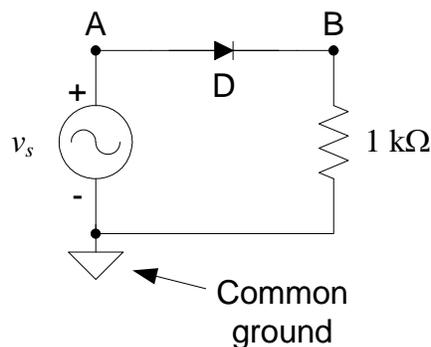

Figure 2 Simple diode rectification circuit.
4. Sketch the expected resistor voltage from the circuit shown in Fig. 2 below assuming a constant voltage drop model for D and an input sinusoid of 10-V peak amplitude and a frequency of 100 Hz.
3. Assemble the simple rectification circuit shown in Fig. 2 using a silicon 1N4148 diode for D . The input should be a 100-Hz sinusoid with 10-V peak amplitude and zero average value. Set the oscilloscope input to DC coupling for the following voltage measurements.